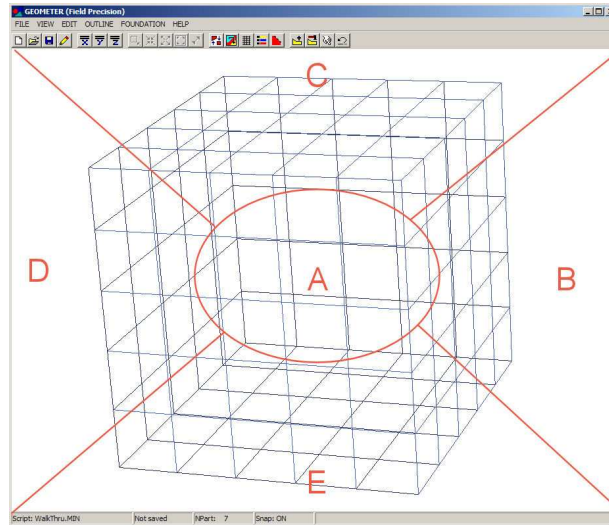

Figure 51: Active areas for mouse control of the 3D view.
The method to control the three-dimensional display with the mouse is identical to that used in **MetaMesh**. Figure 51 shows the active areas of the screen. The central zone (A) is used for zooming in (left button) and out (right button). Hold down the left mouse button in zones B, C, D and E to walk around the object. Hold down the right mouse button in zones B, C, D and E to move the viewpoint to the right, upward, to the left and downward. Note that changes are reflected in the orientation box in the upper-right portion of the screen. The plot is updated when you release the mouse button. You can control additional aspects of the three-dimensional view with the commands of the *Adjust view* popup menu.